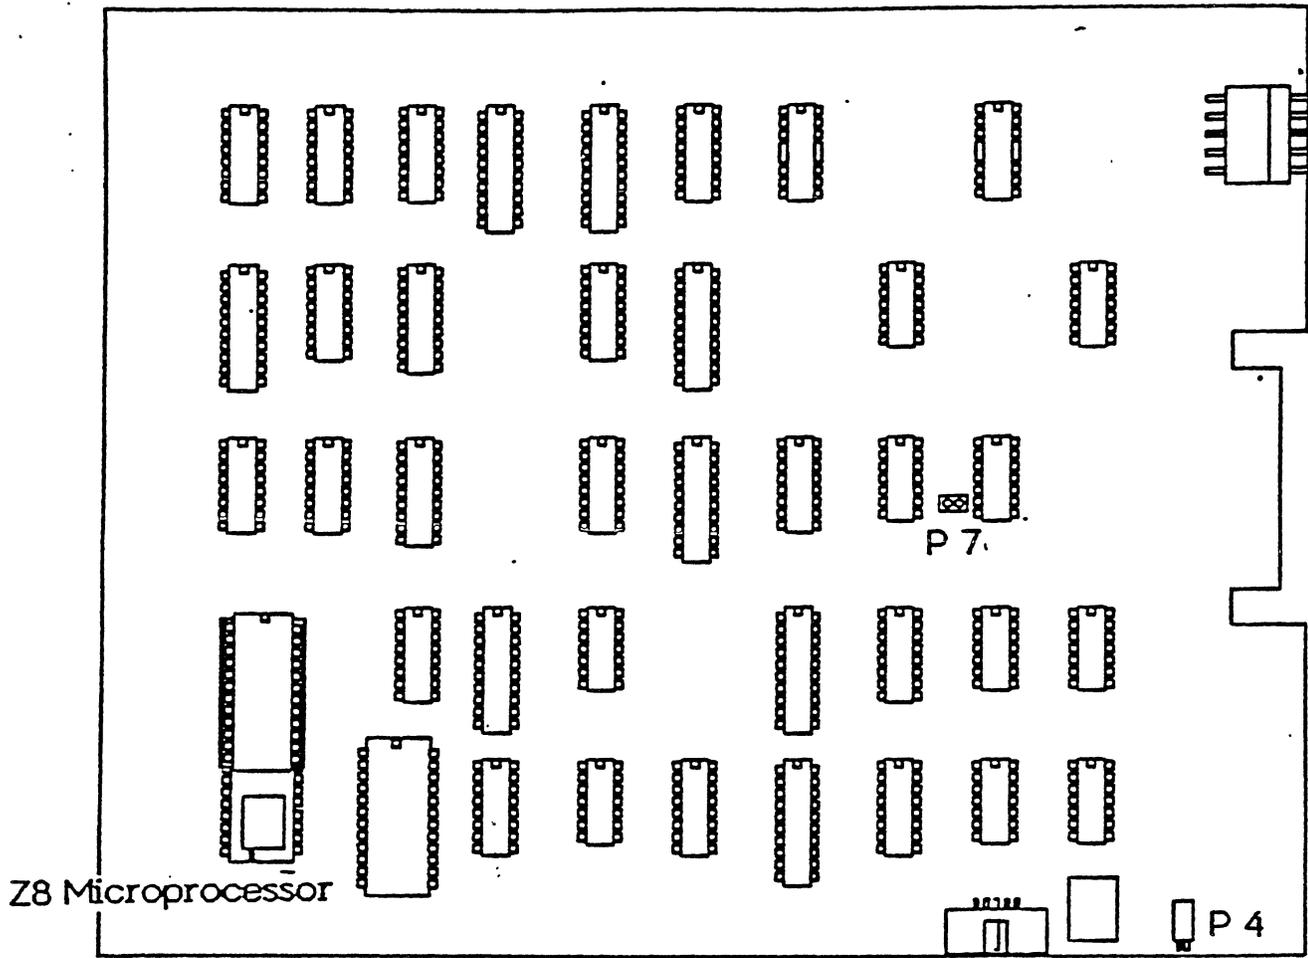
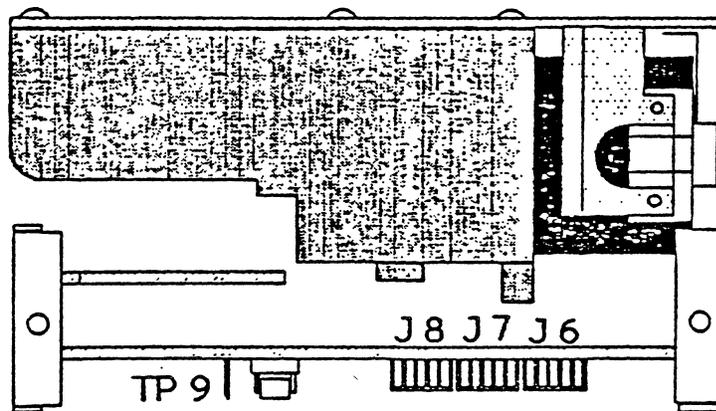

Figure 1 - Profile Controller Board
Figure 2 - HDA End View
1. Place the HDA to be formatted into a Known good Profile system. The controller should contain the piggy-back development type Z8 (shown in Figure 1).
2. Remove the System ROM from the piggy back on the Z8 then install the Format Firmware. Locate the connectors J6, J7 and J8 (shown in Figure 2) that connect the HDA to the analog board. They are a constant source of problems. Move the wires around and make sure that they are securely fastened to the connectors. Connect an external LED to P4 (shown in Figure 1).
15. After a 5 second pause, the final test will begin transferring blocks of data between the Apple /// and the Profile. Figure 1 illustrates the monitor display. The bottom line of the header is the status line, which returns the information about the current block being transferred. When an error occurs, the status will be printed on the bottom line of the monitor and on the Silentye.